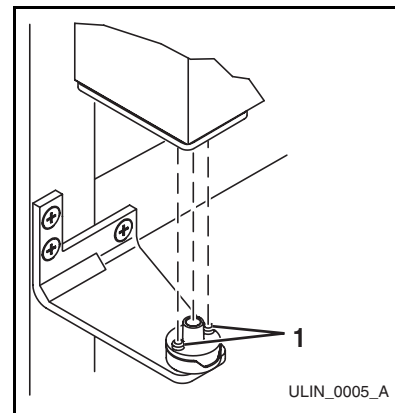
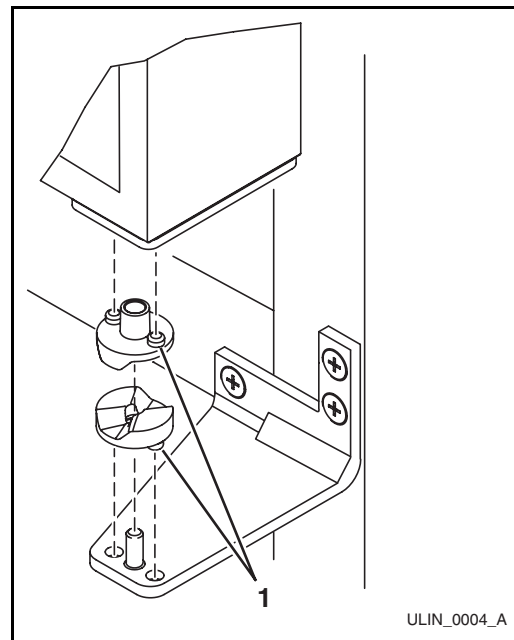

Figure 20
Figure 21
4. Install the removed top hinge mount on opposite side **BOTTOM** (**Figure 20**).
- Remove the two door closer inserts (**Figure 21, 1**) from the existing bottom hinge and install as shown on the new bottom hinge (**Figure 20, 1**).
- Holding door upright with top of door tilted forward, place hole of door pivot plate on bottom hinge screw pin/closer inserts (**Figure 20, 1**).